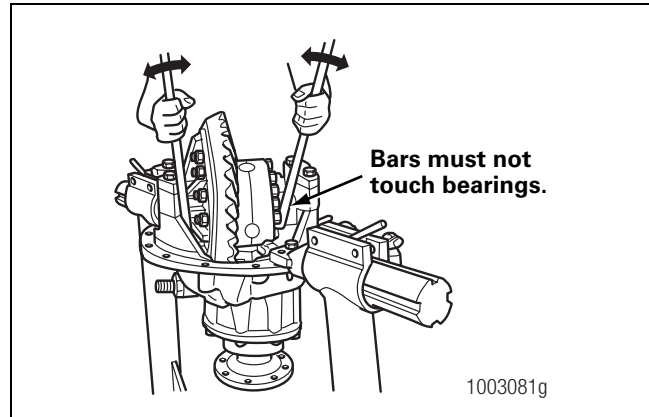

Figure 5.53
- B. Insert two pry bars between the differential case or ring gear and the carrier at locations other than described in Step A. The pry bars must not touch the differential bearings. Figure 5.53.